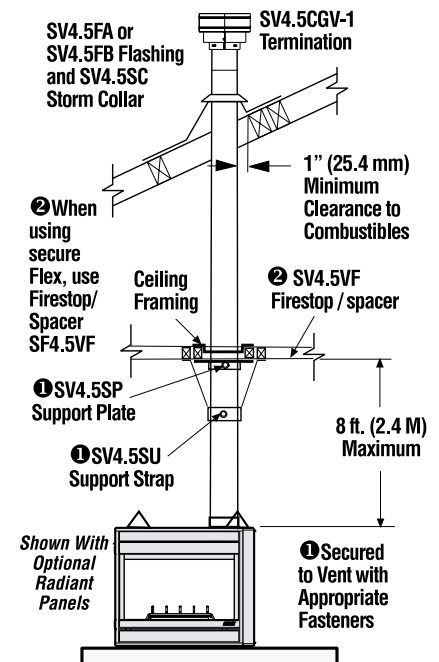

Figure 29
D. Install firestop/spacer at ceiling (Figure 29)
E. Support the vertical vent run sections - **Note** - Proper venting support is very important. The weight of the vent must not be supported by the fireplace in any degree. Support the vertical portion of the venting system every 8 feet (2.4m) above the fireplace vent outlet. One method of support is by utilizing field provided support straps (conventional plumber's tape). Secure the plumber's tape to the framing members with nails or screws. Loop the tape around the vent, securing the ends of the tape to the framing. If desired, sheet metal screws #6 x 1/2" length may be used to secure the support straps to the vent pipe. Refer to **Figure 29**.